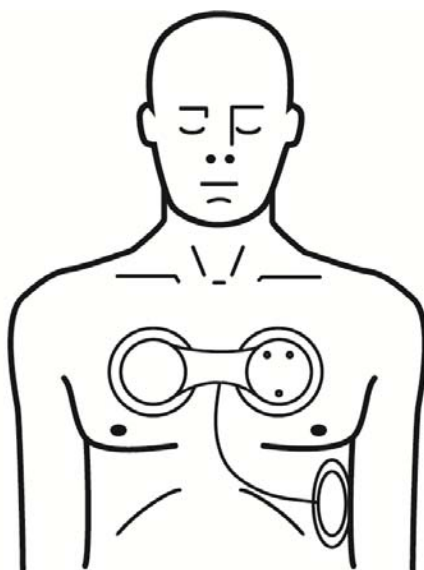

Figure 2: Biosensor Array Placement
- The Biosensor Array must be applied to the patient in the configuration as illustrated in Figure 2.